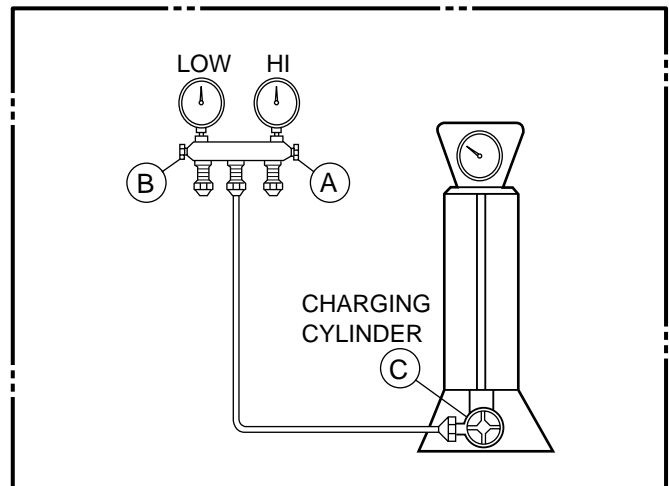

Figure 22B-Charging
- 2) Connect the charging cylinder as shown in Figure 22B. With valve C open, discharge the hose at the manifold connection.